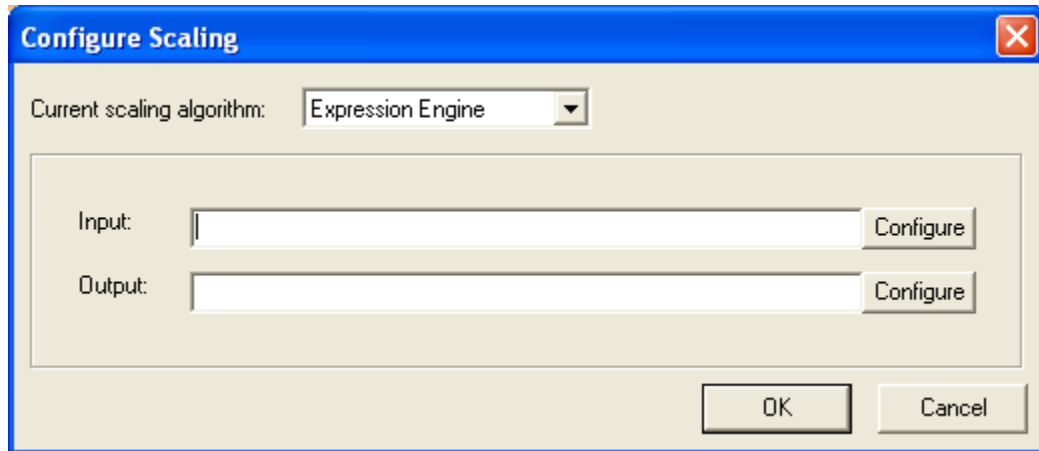

Figure 22 - Expression Engine Configuration
6. Select the **Expression Engine** option (Figure 22).